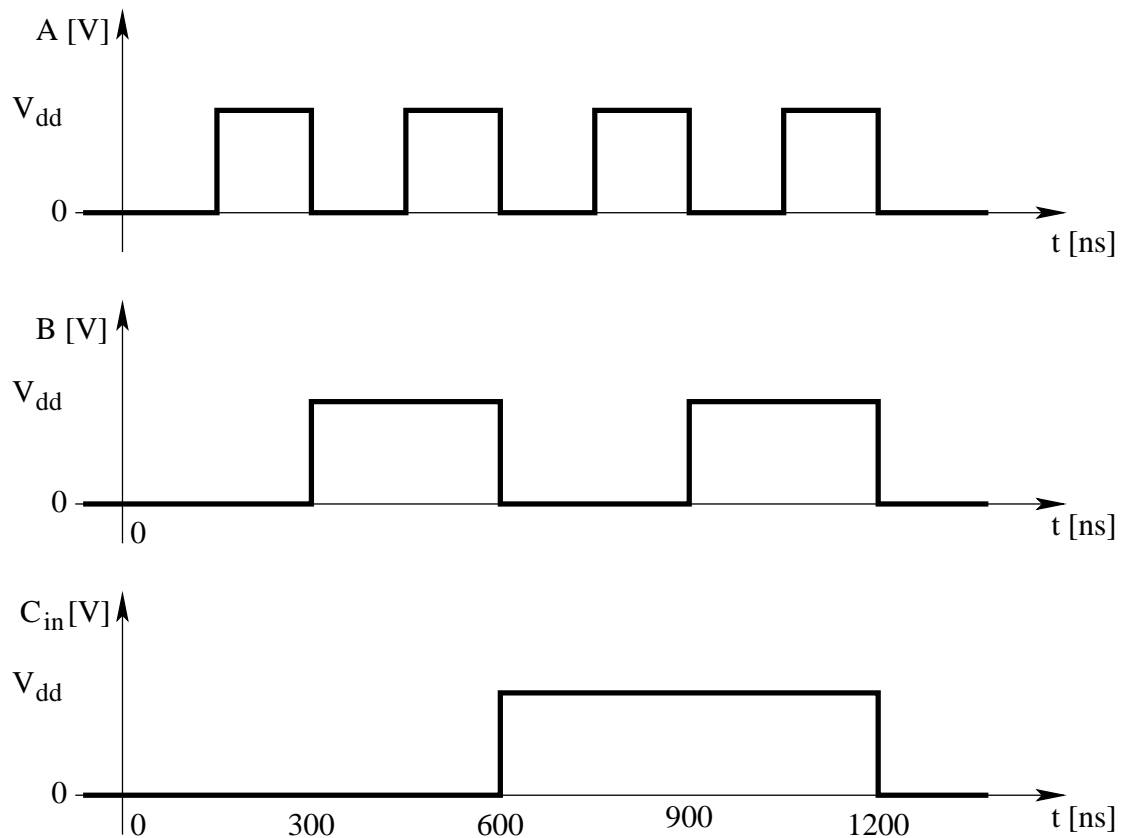

Figure 4: Input signals for the Full Adder (FA) transient simulation
6. Obtain the response of the circuit ("sum" and "carry out") to the transient signals shown in Fig. 4, set all rise and fall times to 1ns.